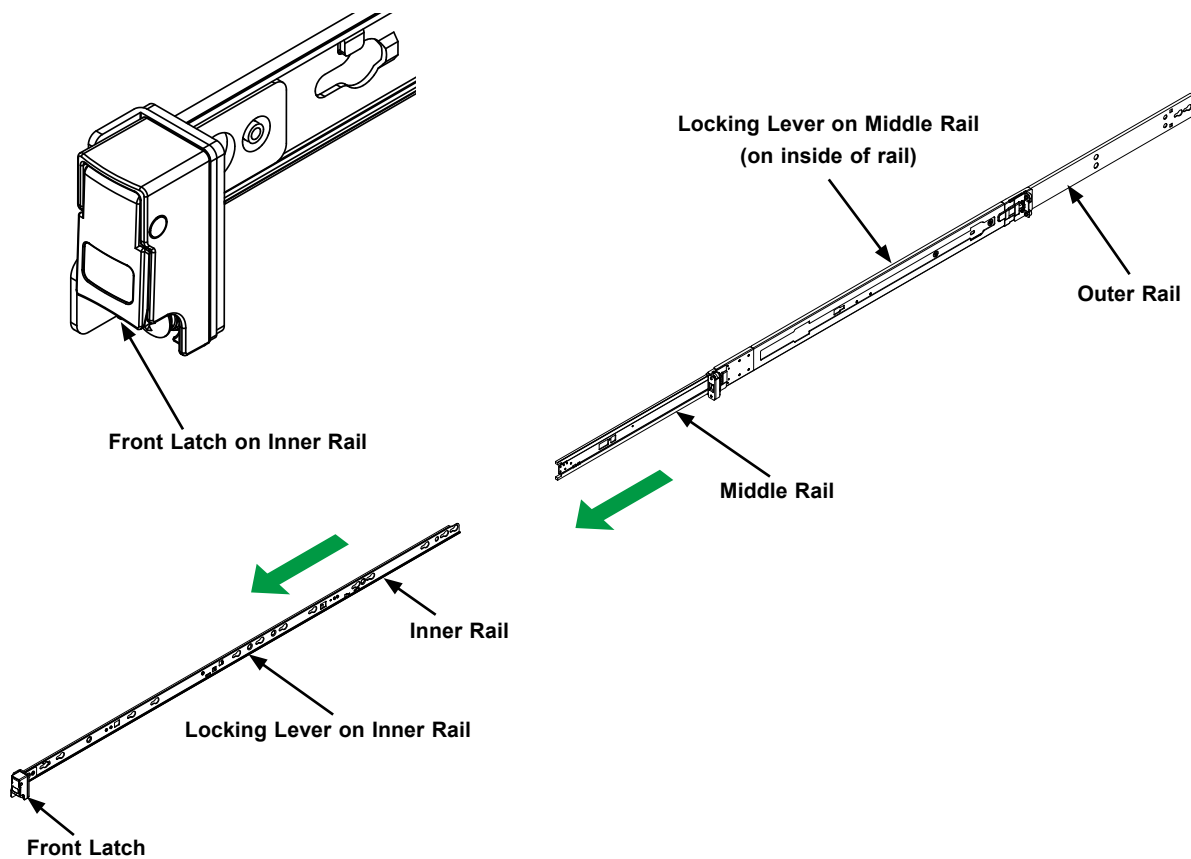

Figure 2-2. Extending the Rails and Releasing the Inner Rail
3. Press down the locking lever on the inside of the outer rail (Figure 2-2) to release the chassis. Continue to pull the chassis out of the middle rails.